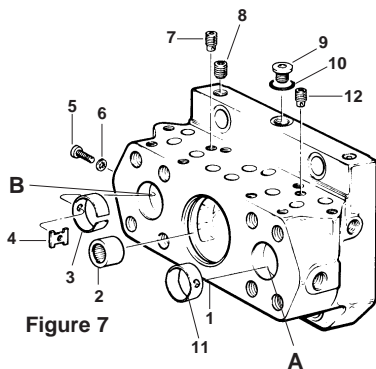

Figure 7
See Figure 7: Position the port block (1) on a clean flat surface with the two open ports up. **THE OPPOSITE FACE MUST NOT BE SCRATCHED OR DAMAGED.** Position needle bearing (2) on tool (figure T-5) with the marked end of the bearing against the shoulder on the tool and press the bearing (2) into the port block. The bearing must be .010" - .025", 0,254 - 0,635 mm below the surface.
**PARTS LIST FOR FIGURE 7**